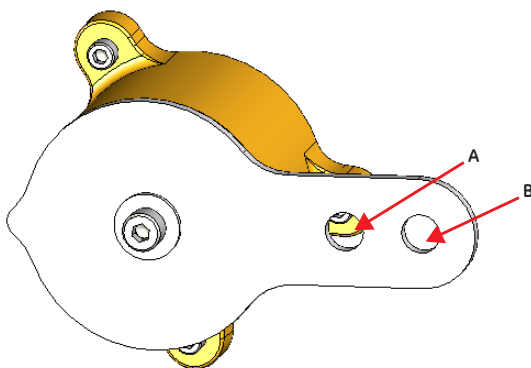

**Figure 15** Ensure Position Linearity
12. Ensure the adjustable link turnbuckle is parallel to the valve stem. Verify that the hole in the lever aligns with the alignment hole in the bracket when the valve is in the closed position. Check that the bracket is mounted using the proper holes (Figure 15).